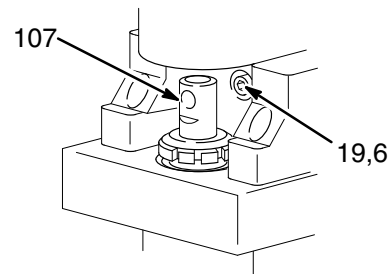
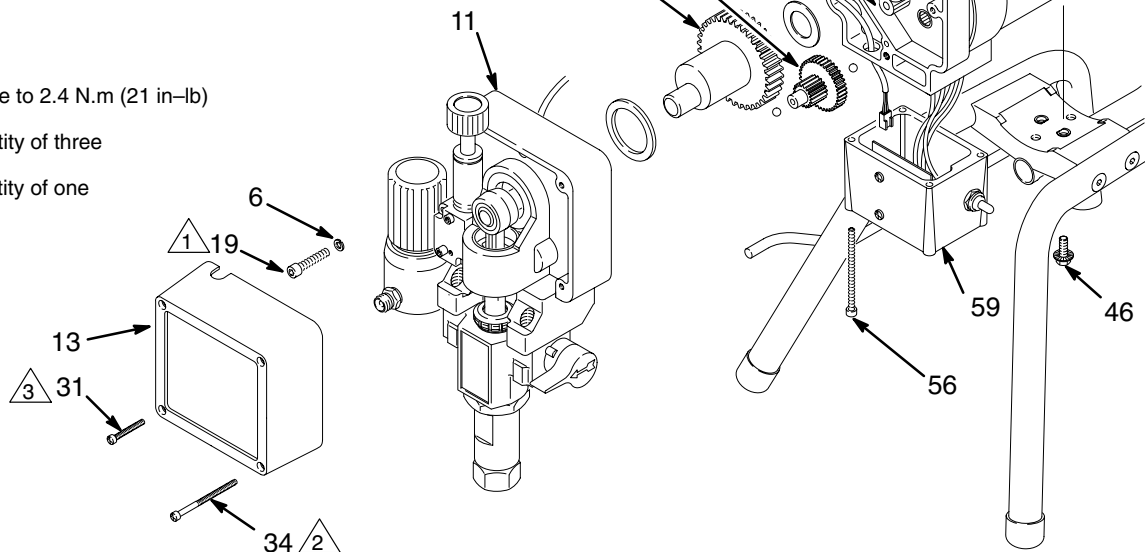

Fig. 20
Fig. 21
**NOTE:** See Fig. 21 except where noted.
4. Remove the front cover (13).
5. Turn the displacement pump rod (107) so the pin hole aligns with the bottom drive housing screw (19). See Fig. 20. Remove the three drive housing screws and lockwashers (19,6). Also see Fig. 21.
6. Remove the two motor screws (5) and the lock washers (6).
7. Tap the lower rear of the drive housing (11) with a plastic mallet to loosen the motor. Pull the drive housing straight off the motor while guiding the harness (A) from the motor. Do not allow the gear (16) to fall. Read the CAUTION on page 24.
8. Remove the two screws (46) and lift the motor off the base (66).
9. Align the new motor with the base and reinstall the screws (46).